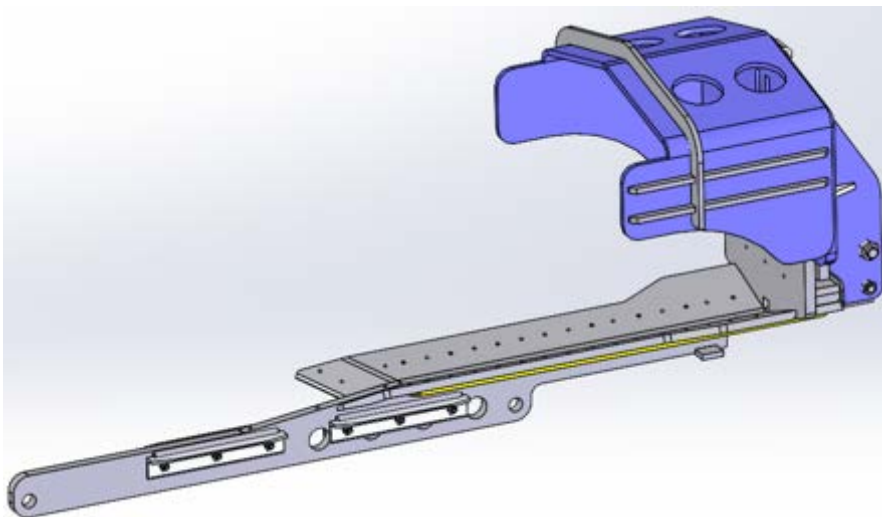

Figure 2: Skate for casing operation
- Use skate cage for casing operation for tubulars from 15" to 24" OD. See Figure 2 on page 3.
This skate cage (Figure 2) can handle casing from 15" to 24" OD.